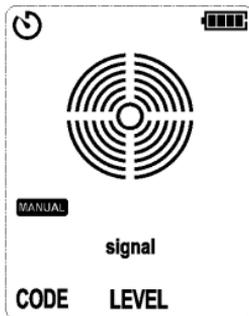

Figure 7.2.3a - No Signal Detected
1. Power on the receiver and then short press the AUTO/MANUAL button to switch to manual mode, as shown in **Figure 7.2.3a**.